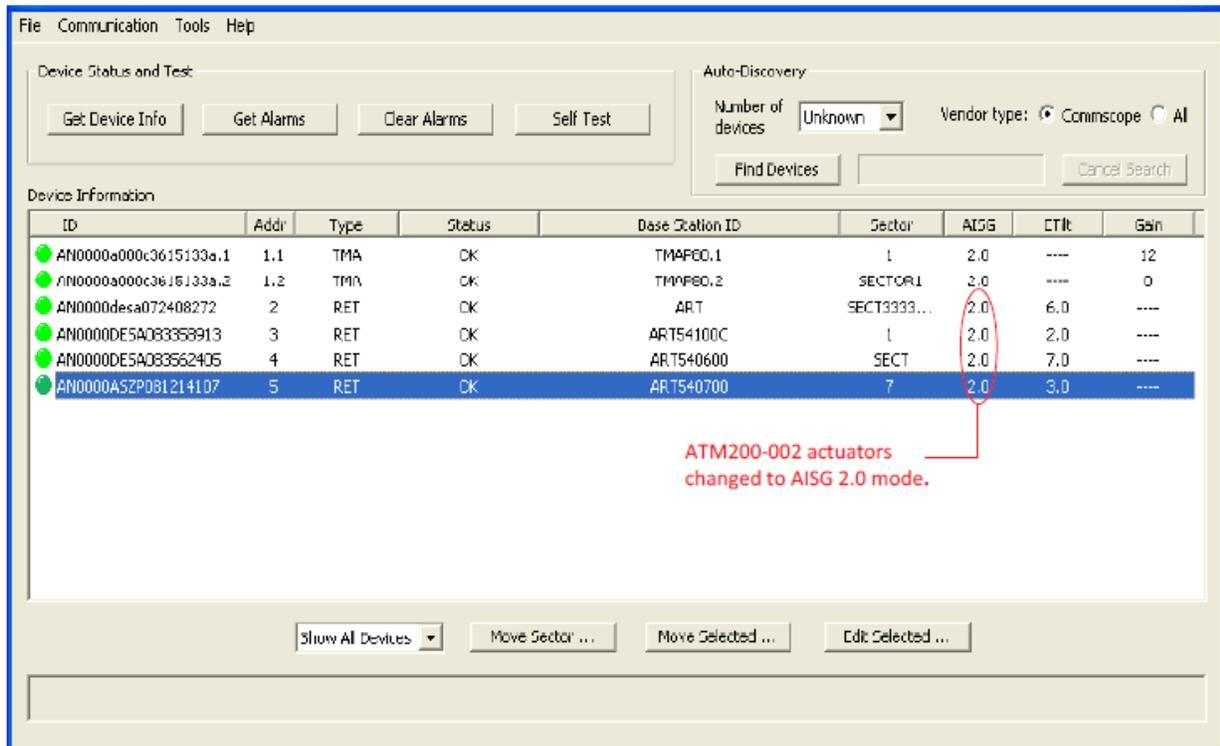

Figure 5-2. AISG Reset Displayed on the Main Screen.
4. Refer to the AISG column in the Device Information window to view the AISG protocol in use for each device (Figure 5-2).